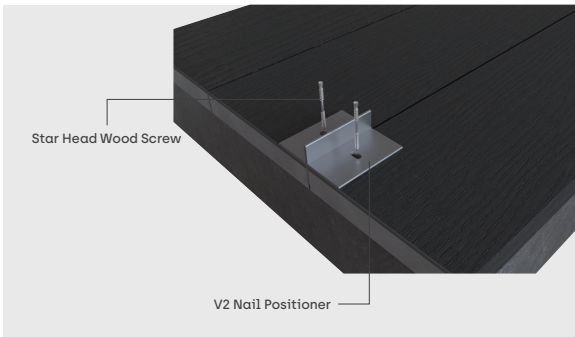

Figure 4-2
2. Before installing the decking, identify the fiberglass reinforcement positions within the core material and avoid driving screws directly into these areas. A nail positioner can be used to control screw placement, as shown in Figure 4-2.